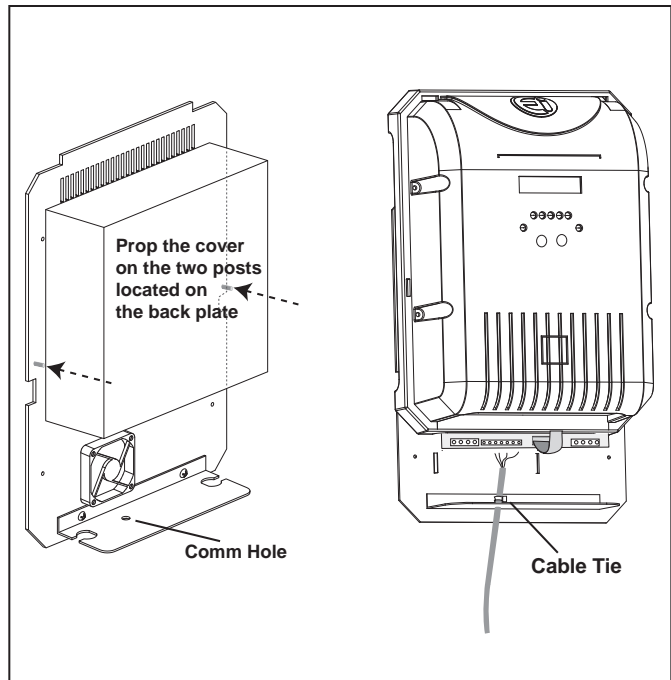

Figure 24. Accessing and Wiring to the Power PCB
2. Remove the screws attaching the cover to the back plate and prop the cover up to expose the terminals (see Figure 24).
3. Remove the white cap covering the comms hole (see Figure 24).
5. Attach a cable tie to the controller cable as shown (see Figure 24).